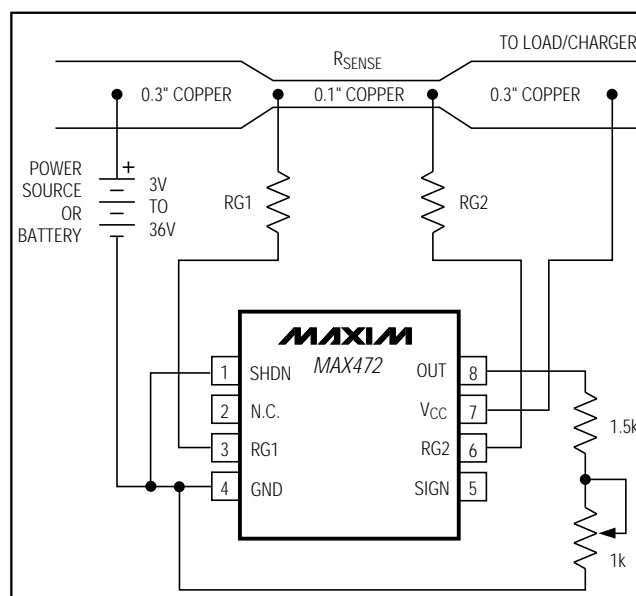

Figure 6. MAX472 Connections Showing Use of PC Board Trace
- e) **Cost:** If the cost of R_{SENSE} becomes an issue, you may want to use an alternative solution, as shown in Figure 6. This solution uses the PC board traces to create a sense resistor. Because of the inaccuracies of the copper "resistor," you will need to adjust the full-scale current value with a potentiometer. Also, the resistance temperature coefficient of copper is fairly high (approximately 0.4%/°C), so systems that experience a wide temperature variance should take this into account.
In Figure 6, assume the load current to be measured is 10A and that you have determined a 0.3 inch wide, 2 ounce copper to be appropriate. The resistivity of 0.1 inch wide, 2 ounce copper is $30\text{m}\Omega/\text{ft}$ (see Note 4). For 10A you may want $R_{\text{SENSE}} = 5\text{m}\Omega$ for a 50mV drop at full scale. This resistor will require about 2 inches of 0.1 inch wide copper trace.